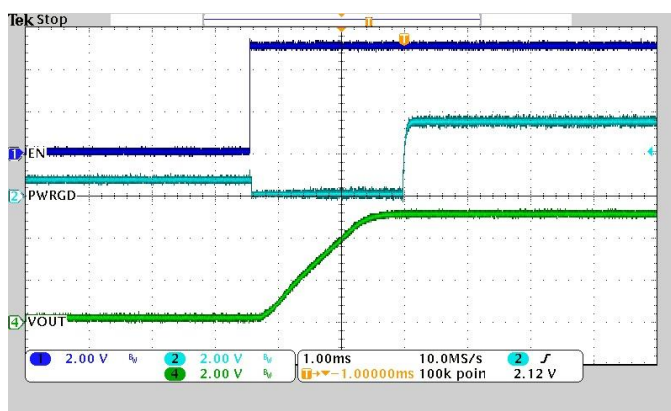
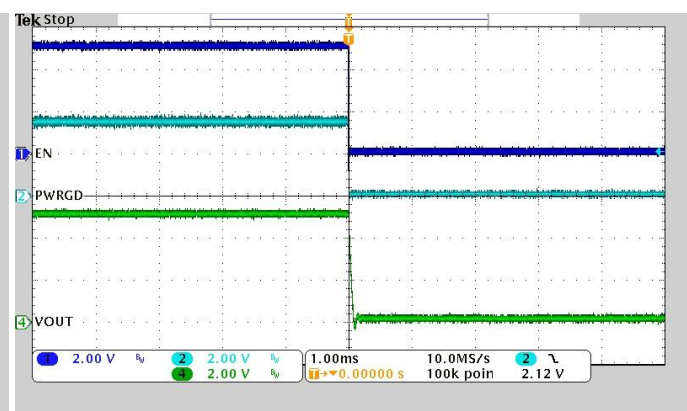

Fig. 5: THPM4601A Enable Turn-On (Vout=5V, Iout=12A)
Fig. 6: THPM4601A Enable Turn-Off (Vout=5V, Iout=12A)
Fig. 5 and Fig. 6 show the typical output voltage waveforms when THPM4601A is turned on and turned off by the EN pin. In these figures, the top trace is Enable signal (EN), the middle trace is Power Good signal (PWRGD), and the bottom trace is the output voltage.